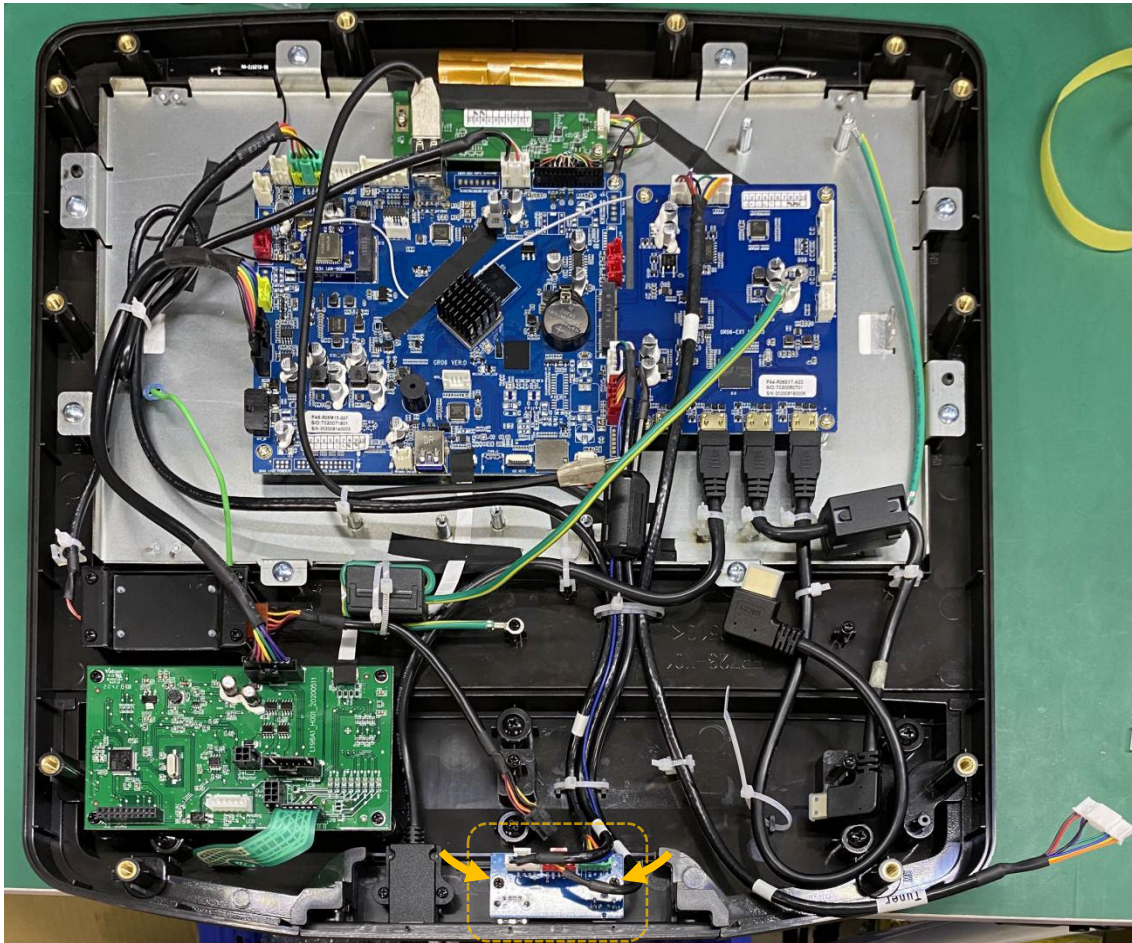

Figure 1
3. Use a Phillips screwdriver to remove the USB board (Fig. 1).